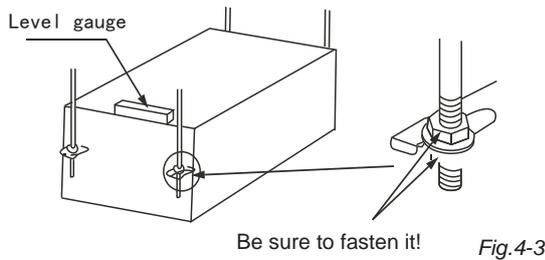

Fig.4-3
3. Use the level gauge to confirm the horizontality of the unit. (Prohibitfalling toward non-drainage side, better to fall a little toward the drainage side) See Fig. 4-3.